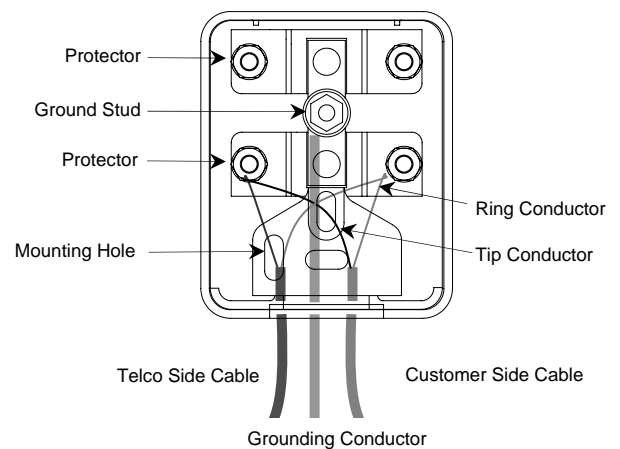

Figure 2
- The mounting holes are covered with a thin film of plastic, easily punched out, to maintain the environmental integrity of the protector (Figure 2).